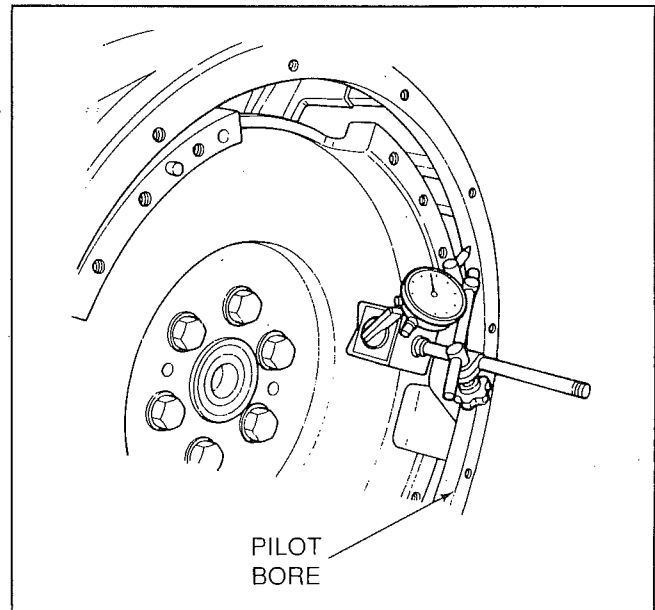

Figure 9-11. Checking Flywheel Housing Pilot Bore For Runout
2. Measure the housing pilot bore **radial runout** by attaching a dial indicator base to the flywheel (Fig. 9-11). Position the gage pointer against the housing pilot and zero the gage. Rotate the engine by hand. Mark the high and low points of the housing pilot as indicated by